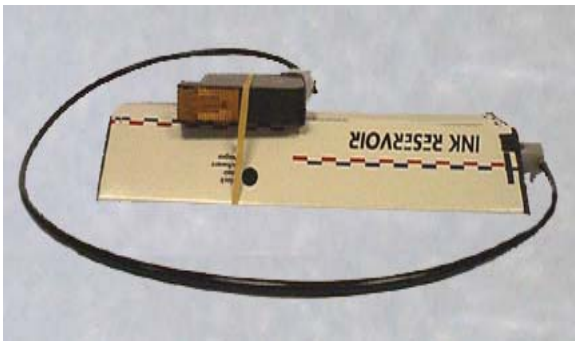

Figure: 3 Storage of a Connected System
- The system must be stored carefully. The print cartridge must be stored above the ink reservoir in order to maintain the proper internal system pressure. The best way to keep the pressure regulated is to rubber band the system together with the print cartridge resting on top of the ink reservoir as shown in Figure 3. The print cartridge is resting on the flat surface of the ink reservoir.